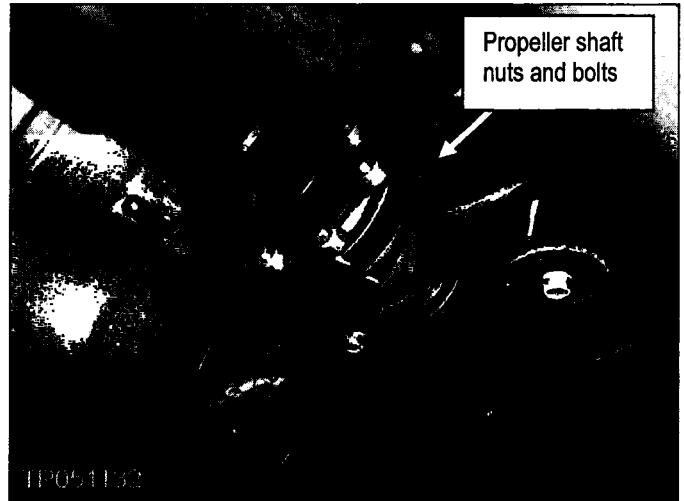

Figure 18
18. Remove and discard the propeller shaft nuts and bolts (see Figure 18).